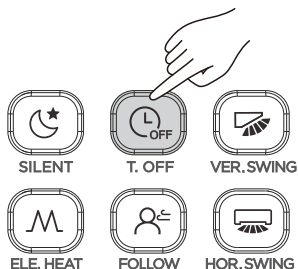

Figure 3.18
- ① Press  (see Figure 3.18), and the remote controller will display "Timer Off", and "0.0h Later Off" will appear in timer area. Adjust the Timer Off settings now;